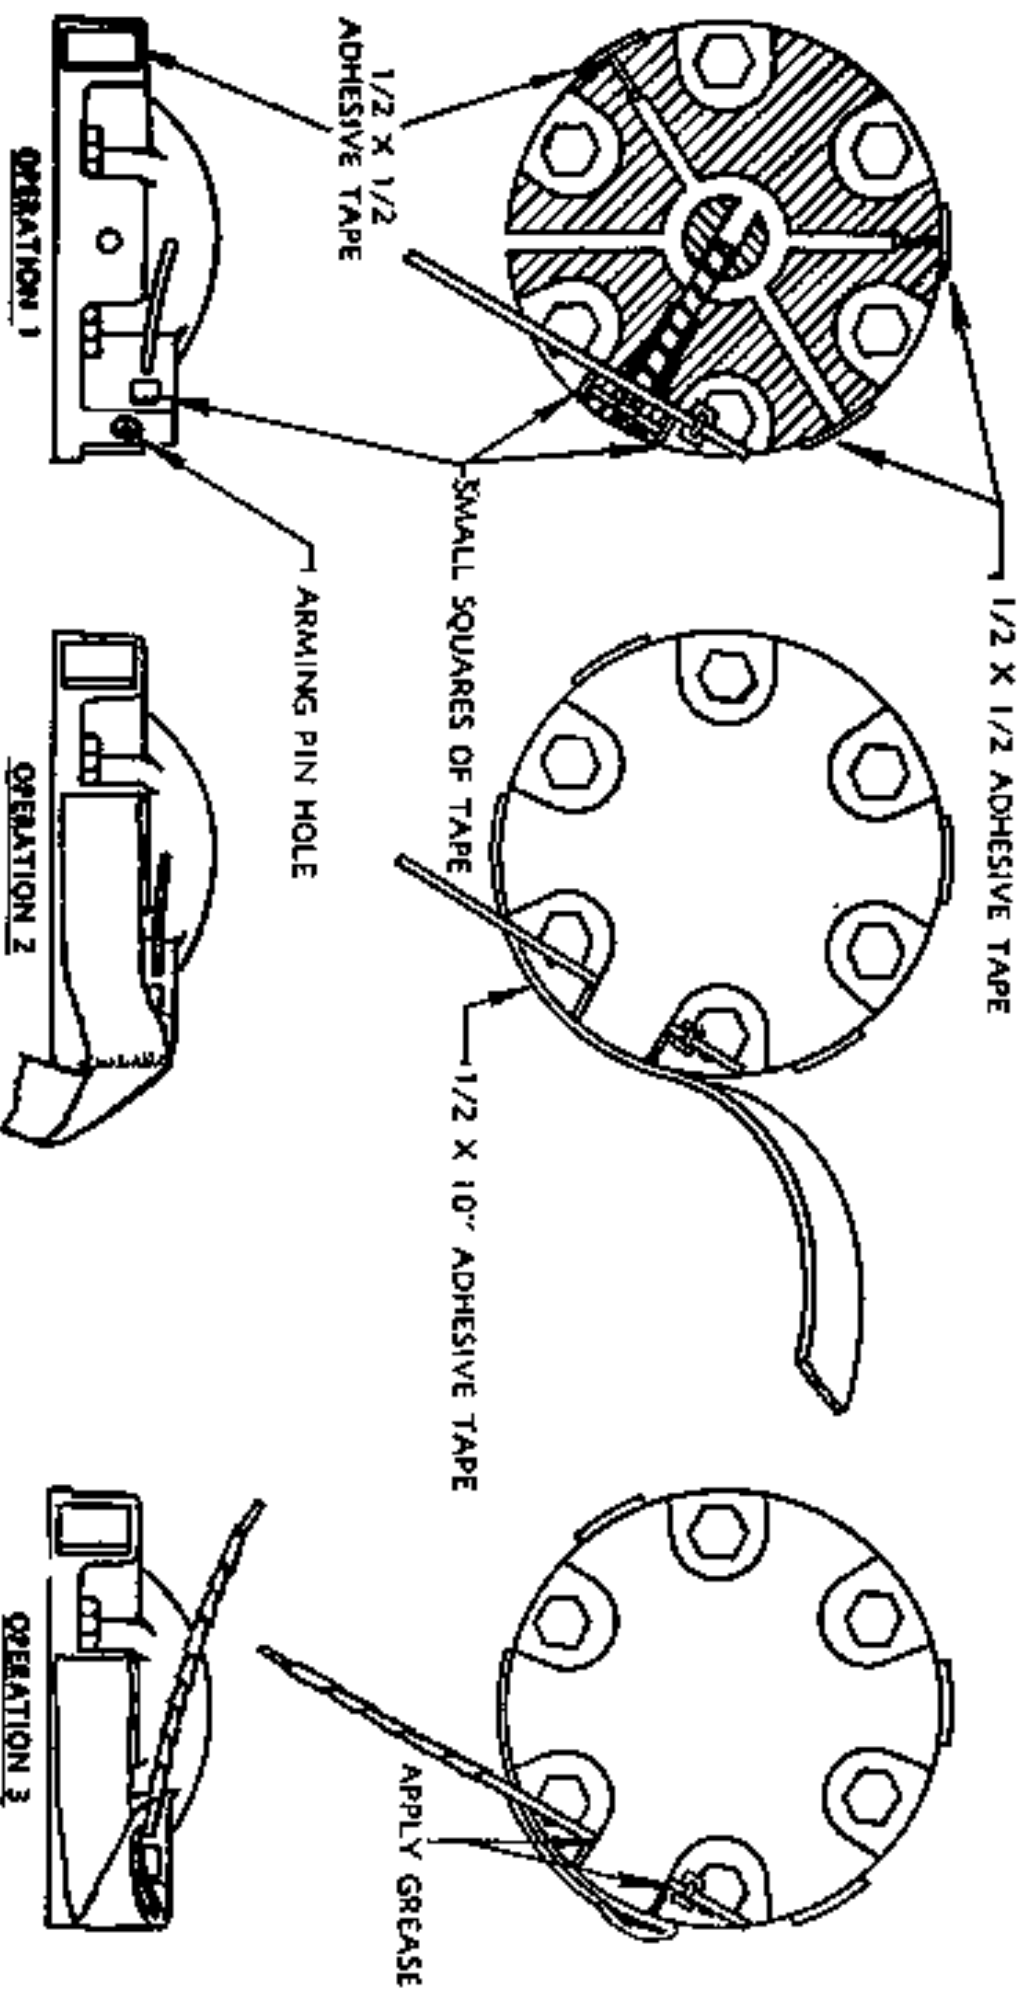

Figure 71. Method of weatherproofing hydrostatic fuse.
(2) There are nine openings in the lateral surface of each head which require treatment. (In some fuzes there are seven.) These are (fig. 71)—